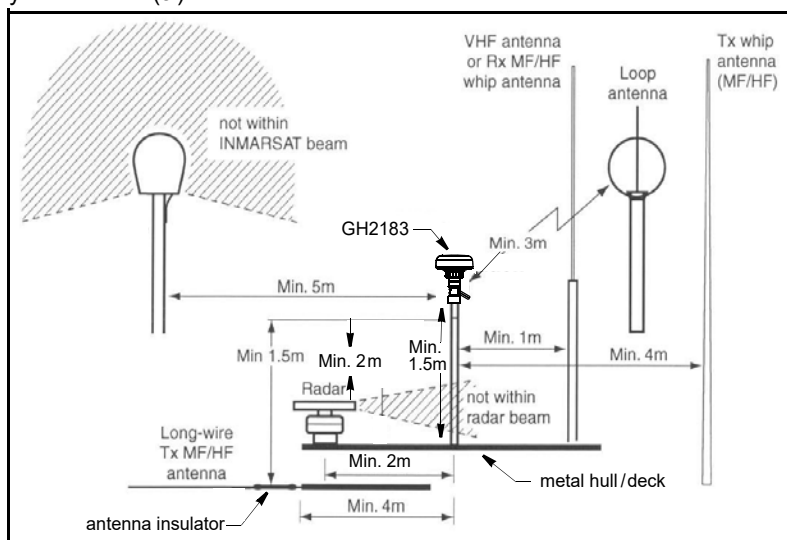

Figure 1. Minimum distance from sensor
- To prevent interference to the GPS (Figure 1):